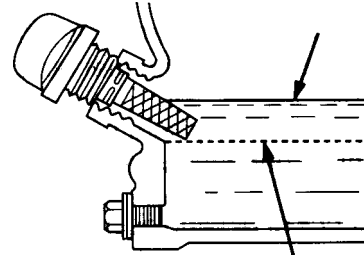

Figure 8. Engine Oil Dipstick (Oil Level)
4. If the oil level is low (Figure 8), fill to the edge of the oil filler hole with the recommended oil type (Table 5). Maximum oil capacity is 1.16 quarts (1.1 liters)